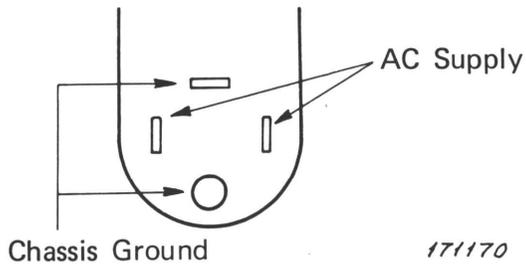

Fig.2.3. AC Power Socket
- POWER SOCKET:** Socket for connection of AC mains supply. For connections see Fig.2.3.